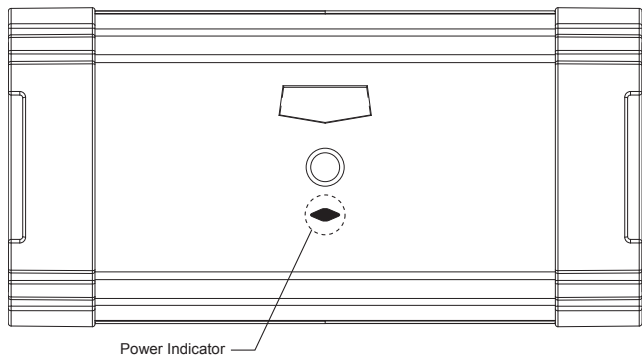

Fig. 13 - Power Indicator
- d. The power indicator light above the Air Purifier power switch should illuminate (see Fig. 13).
The Perfect Air Air Purifier is equipped with a power indicator light located on the door (see Fig. 13). This power indicator light will illuminate when the Perfect Air Air Purifier door is installed, the power switch is in the on position, AND the fan coil blower is running and airflow is sensed. If the power indicator light is not illuminated, follow the troubleshooting steps below.